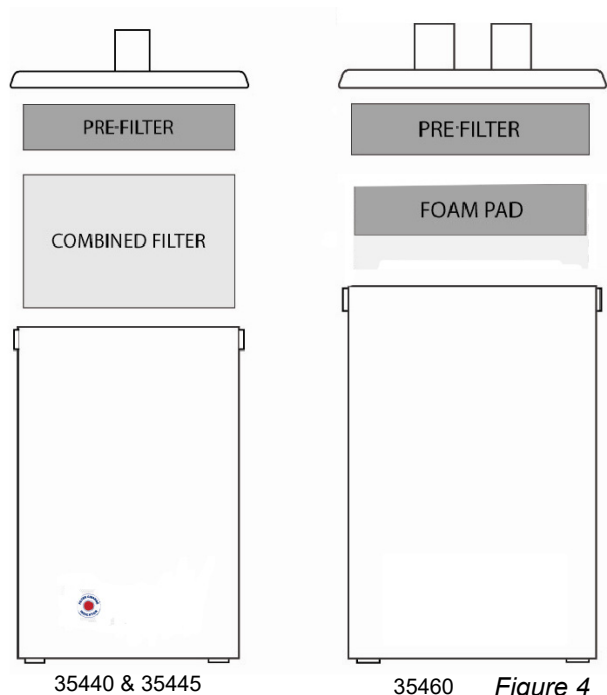

Figure 4
5. Remove the pre-filter, which may be recessed into the combined filter. (See Figure 4)